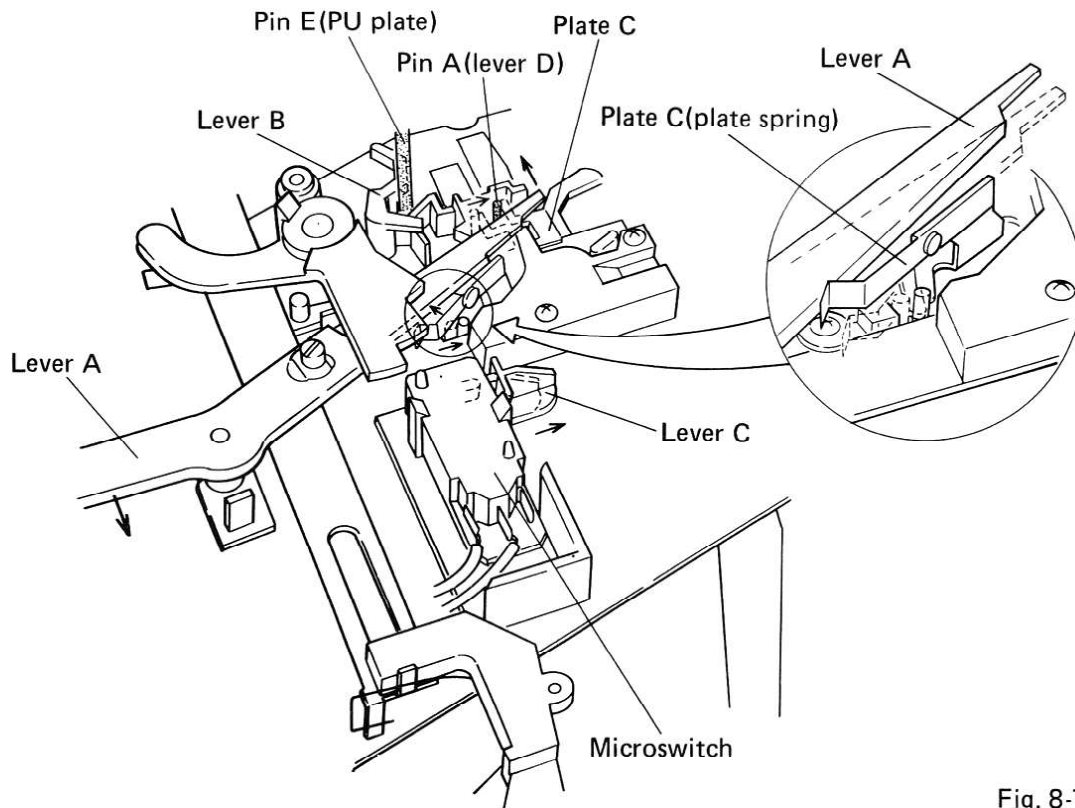

Fig. 8-7
2. Pin A located above lever D then presses against plate C, thereby unlocking plate C from lever C. And once lever C is separated from the micro-switch the power for the motor will be turned on (Fig. 8-7).
3. The plate C plate spring will also press against lever A, thereby repelling the cam A detector assembly (Figs. 8-7, 8).
15. When the PU plate completes the lead-in operation, pin E of the PU plate rotates lever E in the counter-clockwise direction, resulting in lever C separating from the microswitch to leave the motor power on for continued disc play (See Fig. 8-7).